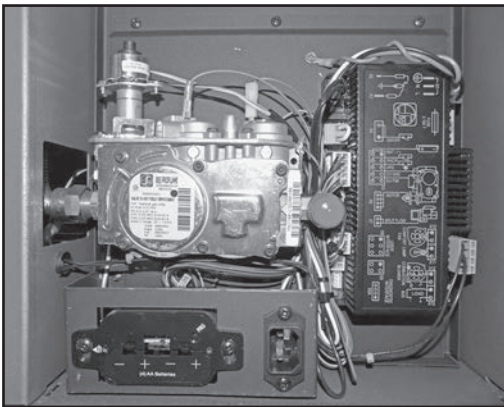

Figure 11: Valve & IFC module location.
1. Remove switch cover and back panel and locate the valve as seen in (Figure 11).
2. Proflame Integrated Fireplace Control (IFC Module) board and a wiring harness to connect the IFC to the gas valve and stepper motor (Figure 11).